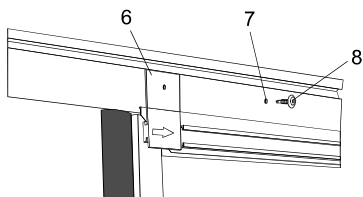

Fig. 11
5. Insert hold down brackets (6) into the slots in the top of the front screen panels (see Fig. 11).